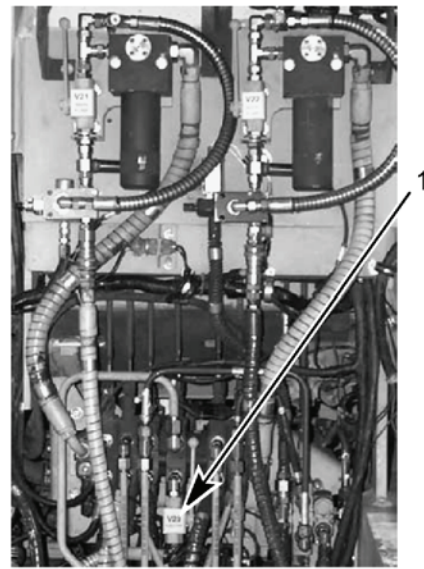

Figure 8. DCV Bank
- Manually close the ejector inhibit ball valve V23 (Figure 8, item 1) on the DCV bank.